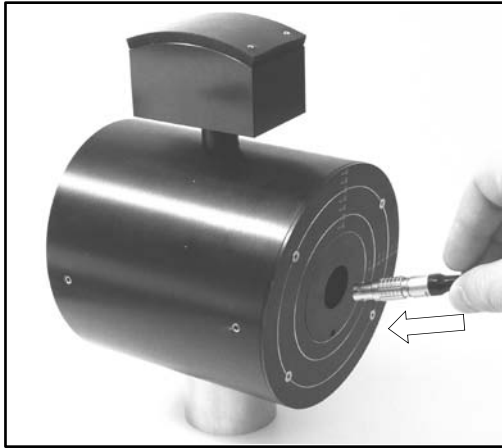
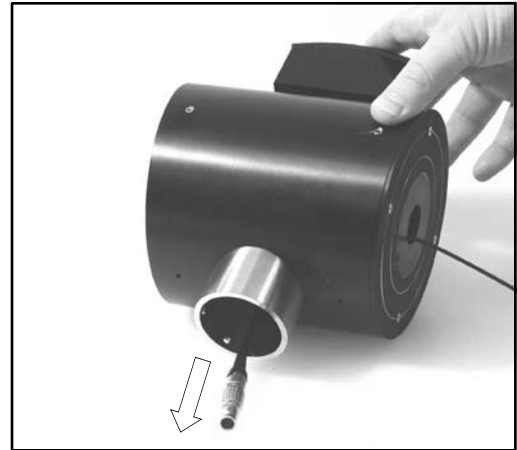

Fig. 6.4
Fig. 6.5
3. Pass the amplifier's LEMO plug end through the side of the head (Fig. 6.4) until it drops through the tube (Fig. 6.5).